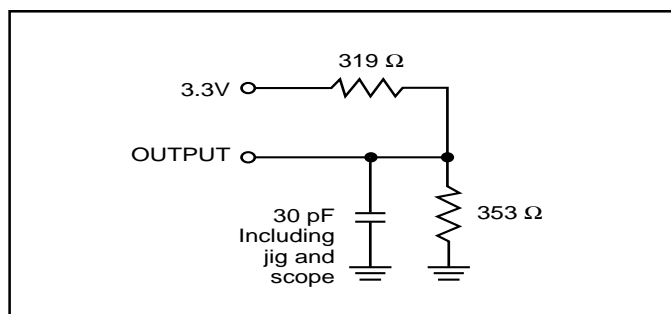

Figure 1
1. Test conditions assume signal transition times of 3 ns or less, timing reference levels of 1.5V, input pulse levels of 0V to 3.0V and output loading specified in Figure 1.
Output Load	See Figures 1 and 2